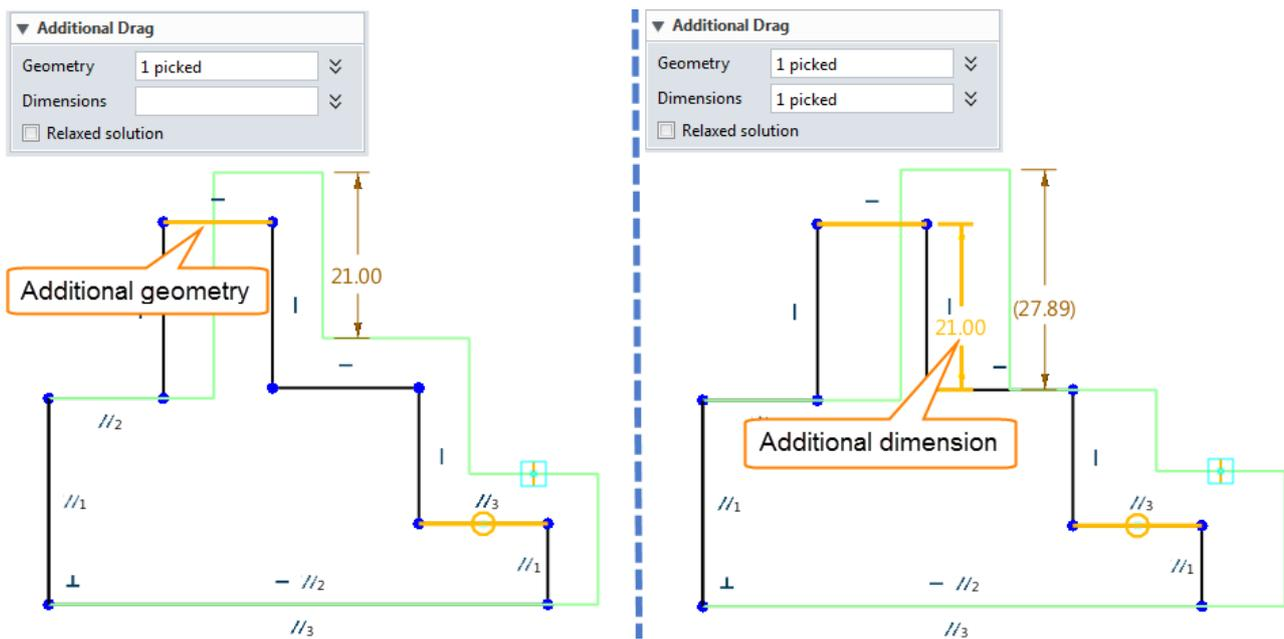

Figure 72 Additional Drag
1) Take this case for example, if you want to drag more geometry together, please select the additional geometry in geometry input box. See the left image of Figure 72.
- 2) If you want to drag some dimensions together, you could define the additional dimension; see the right image of Figure 72.